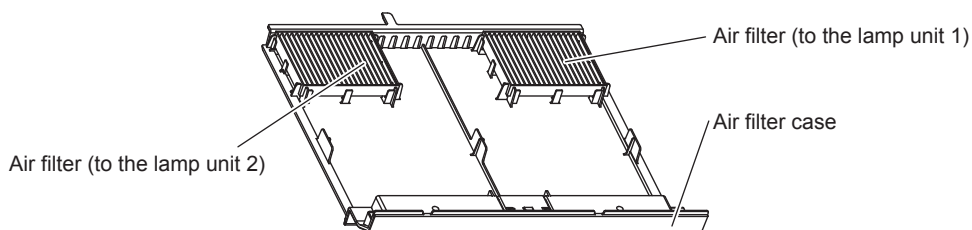

Fig. 1
1) Remove the lamp unit cover. (Fig. 1)
1) Attach the air filter. (Fig. 1)